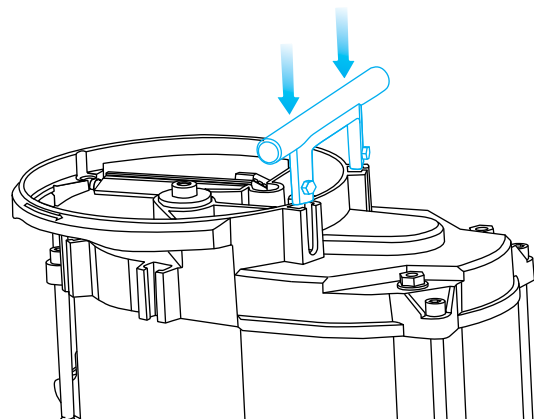

Fig. 3-4
7. **Install the Top Tool Rest.** To install your Top Tool Rest, first remove it from the packaging and locate the 2 provided thumbscrews to mount the Tool Rest. Simply slide the Top Tool Rest into the T-Slots on the top of the unit. **See fig. 3-4.** Thread the provided fasteners into the tapped holes in the Tool Rest. Ensure the Tool Rest is level by placing a level on top of the Tool Rest surface. Once you have located the height and level of the Tool Rest you wish, tighten the 2 thumbscrews to secure the Tool Rest. Do not over-tighten these 2 thumbscrews, as you can potentially stress and/or damage the T-Slots in the top casting.